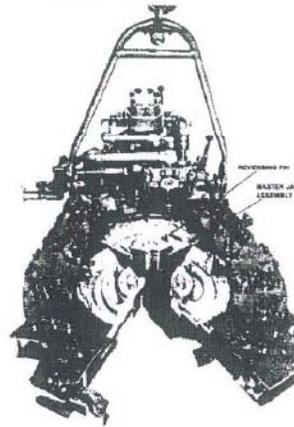

Figure 3-3: Reversing pin
4. Place reversing pin in the make-up hole for make-up operation or in the breakout hole for breakout operation. (See Figure 3-3)